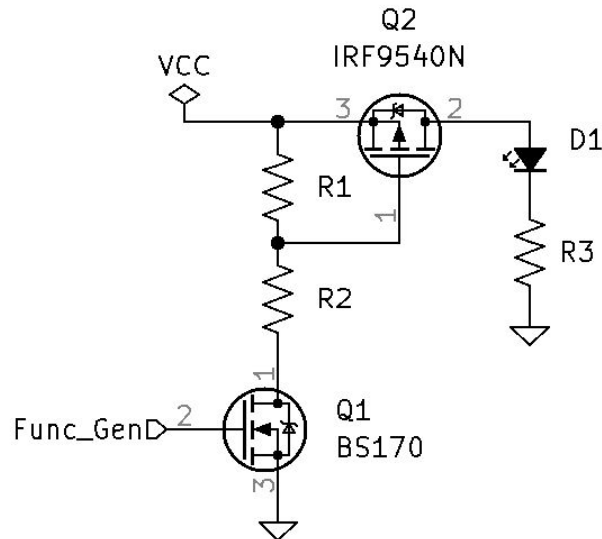

Figure 12.2: Switch Test Circuit 2
4. Design a circuit to test the switching ability of the IRF9Z24N. See *Switch Test Circuit 2* Figure 12.2. Make $V_{CC} = 40V$.